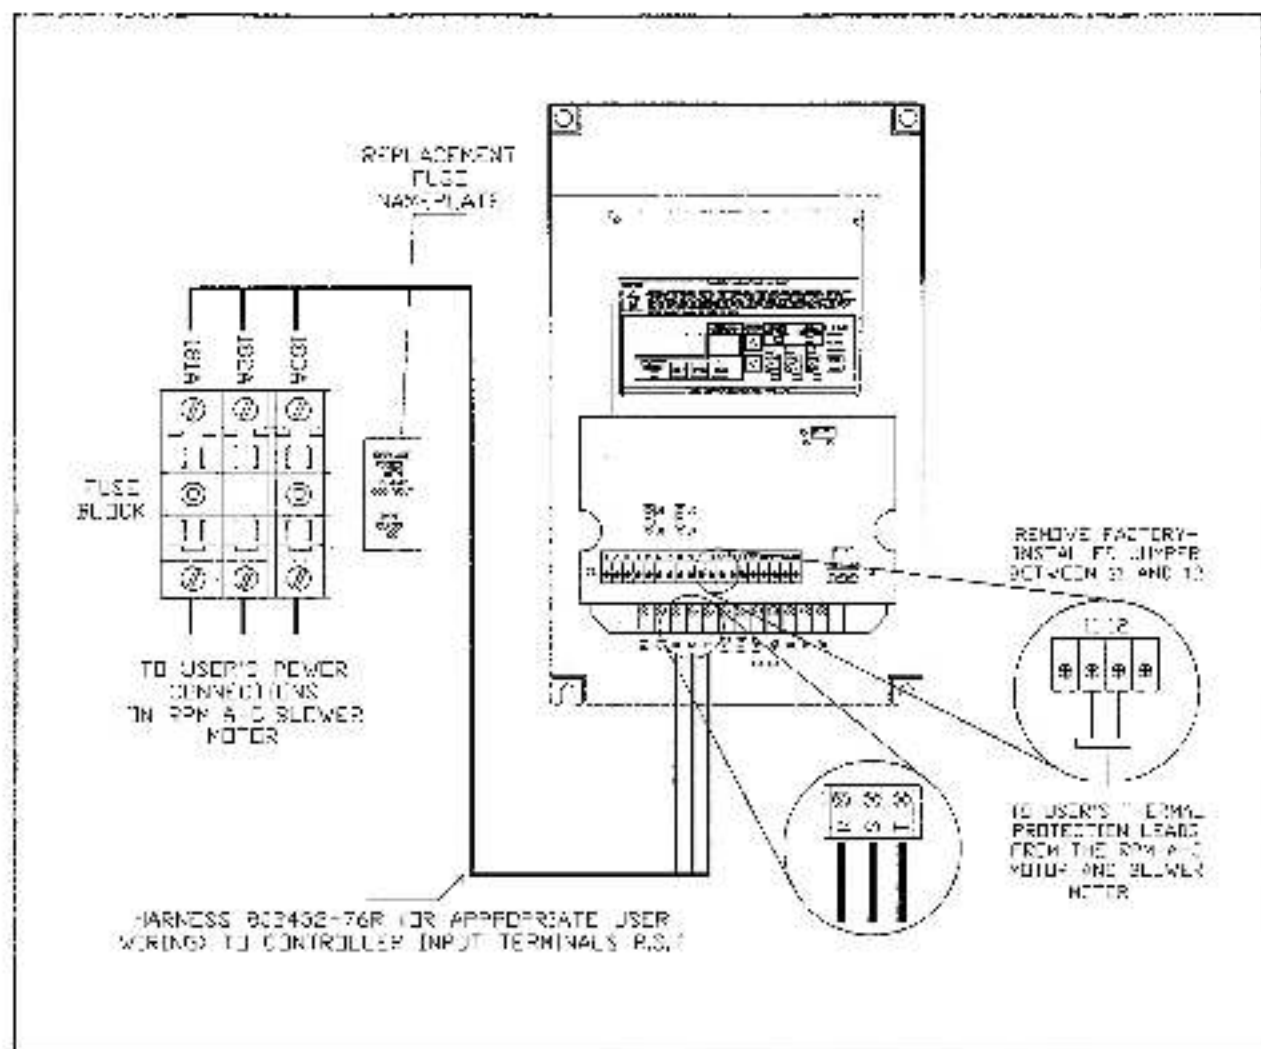

Figure 2. Fuse Block Connection Diagram (Stand-alone Controller).
5. Using wire harness 003432-76R or wire selected in accordance with all applicable codes, connect the terminals on one end of the fuse block to input terminals R, S, and T on the controller. Refer to Figure 2 for wiring detail.